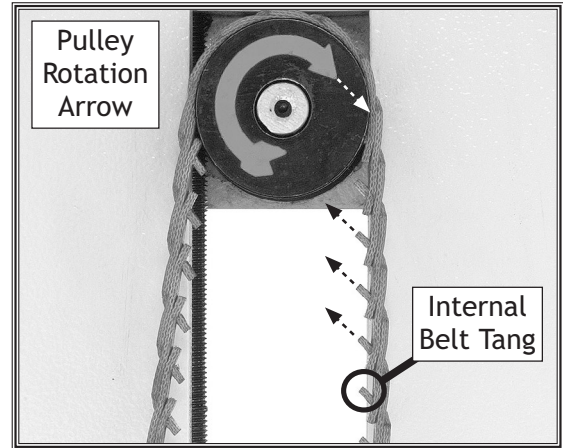

Figure 10. Installing the drive belt (belt cover removed for clarity).
- Place the belt onto the cutterhead pulley with the belt direction arrow pointing the direction of pulley rotation. When installed correctly, the internal belt tangs must be facing against the pulley rotation arrow shown in **Figure 10**.